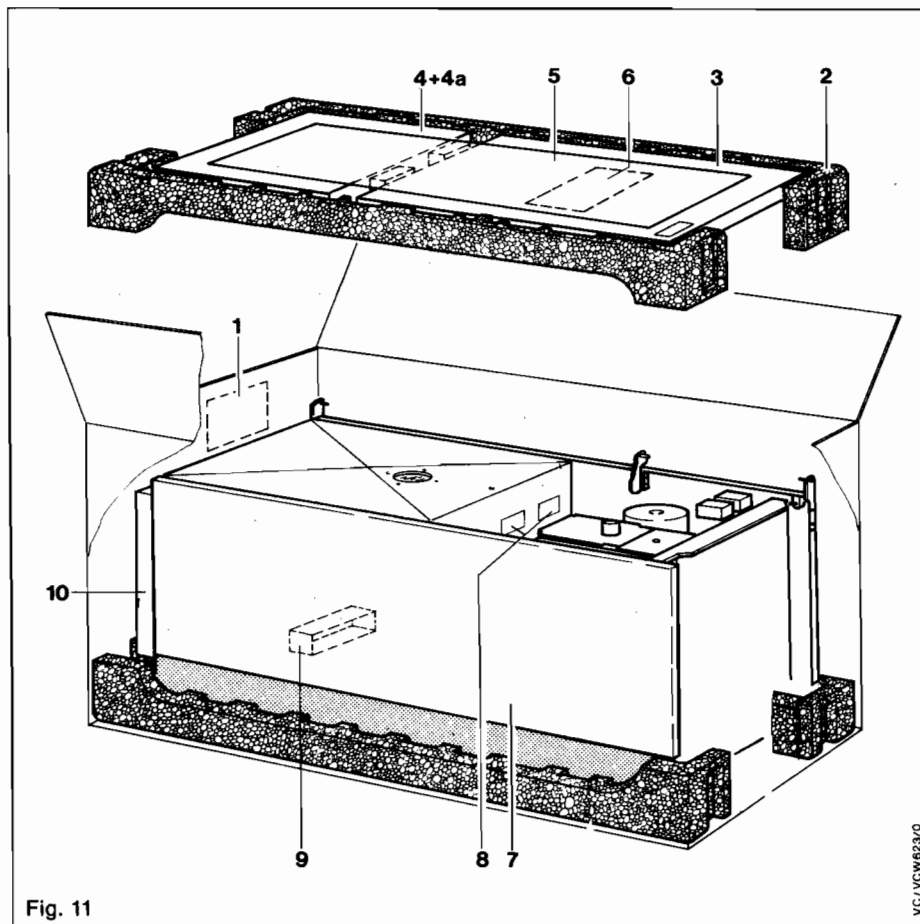

Fig. 11
the cased boiler (item 1, Fig 11),
The flue duct connection piece is stored on the rear of the appliance with tape for transportation purposes (see 9, Fig. 11). This component is essential for the correct functioning of the appliance. Fit this flue duct connection piece (20, Fig. 18) onto the telescopic duct of the wall assembly (16, Fig. 18) using the two captive screws. Slide the telescopic wall flue duct in such that it does not protrude more than 50 mm from the wall face.